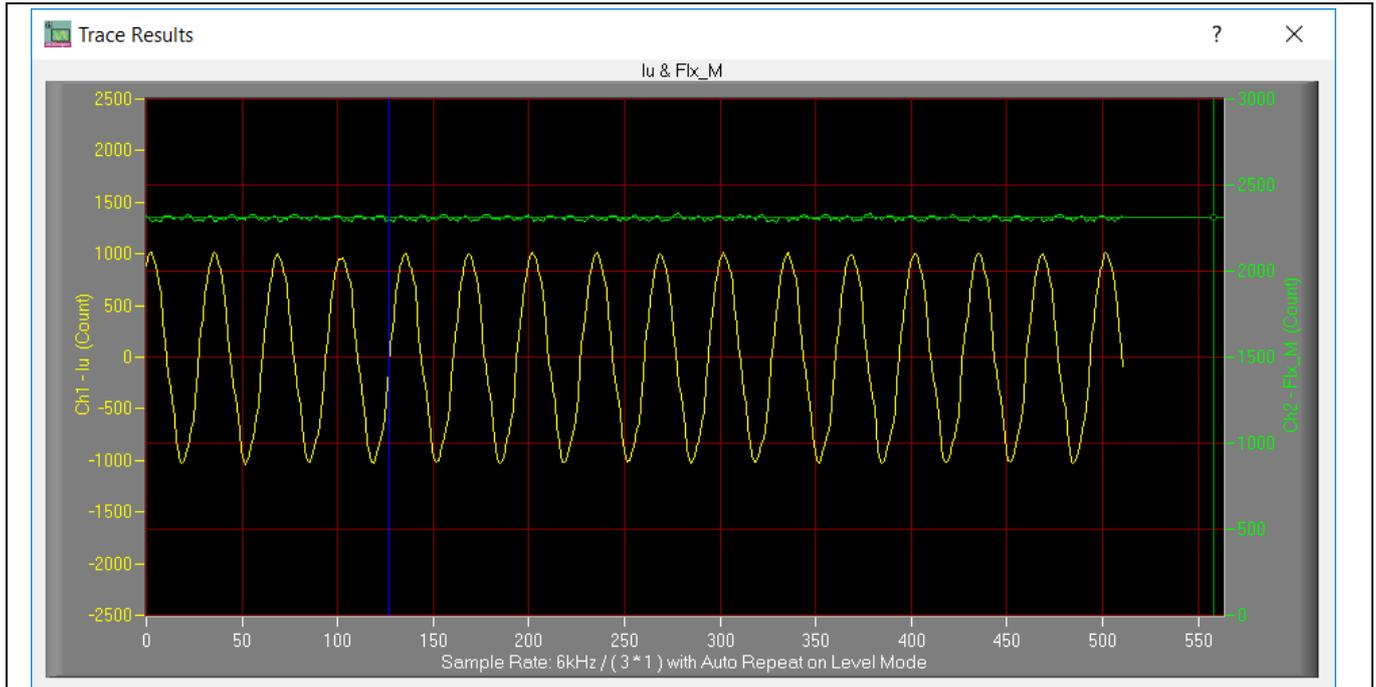

Figure 9 Trace waveform for Iu & Flx-M at 50% speed
- Set target speed to about 50% of MAX speed, start “lu & Flx_M” trace with “Auto Repeat on Level”. As Figure 9. Flx_M is better within the range of 2000~2500 cts (rated value is 2048), and MUST be steady and DC-like.